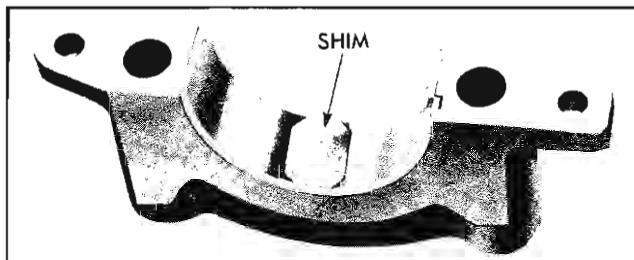

Fig. 6-57 Shim Positioned in Bearing Cap
1. Place .002" brass shim  $\frac{1}{2}$ " wide by 1" long in main bearing cap with new standard bearing and install cap, pulling up bolts 95 lb. ft. except rear main torque to 120 lb. ft. in step 6. Refer to Fig. 6-57 for position of shim in cap.